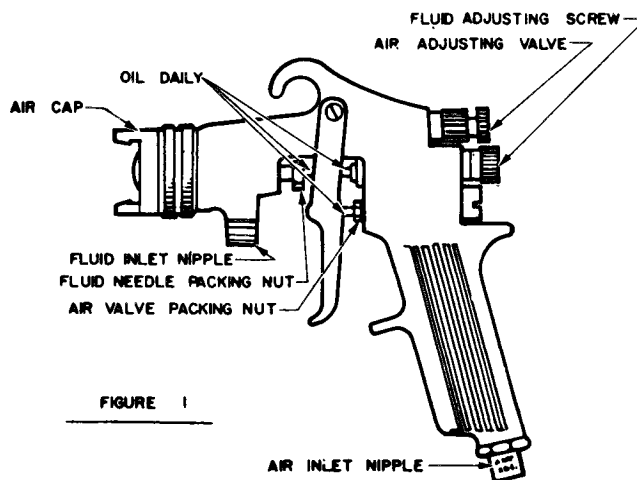

FIGURE 1
When used with a Siphon Feed Cup, attach the gun to the Fluid Inlet Nipple and connect the Air Hose to the Air Inlet Nipple (see Fig. 1). When used with a Pressure Feed Tank, Air Hose and Fluid Hose both are required to connect the Spray Gun to the Tank. The Fluid Hose is Black, the Air Hose is Red. Attach one end of the Fluid Hose to the Fluid Outlet on the Pressure Tank and the other end of the Fluid Hose to the Fluid Inlet Nipple on the Spray Gun. Attach one end of the Air Hose to the Air Outlet Valve on the Pressure Tank and connect the other end of the Air Hose to the Air Inlet Nipple of the Spray Gun (Fig. 1).
The width of the Spray is controlled by the Air Adjustment Valve (Fig. 1). Turn the Air Adjustment Valve clockwise to decrease the spray, counter clockwise to increase the spray. To produce a round spray pattern or spot, close the Air Adjustment Valve.
The amount of material flow is controlled by the fluid Adjustment Screw (Fig. 1). Turn Adjusting Screw to the right to decrease the amount of Fluid flow and to the left to increase it.
LUBRICATE DAILY all bearing surfaces and moving parts with a light oil. The points of lubrication, refer to SPRAY GUN ASSEMBLY SECTIONAL DRAWING and see also Figure 1, required are: (A) the front and rear bearing surfaces of FLUID NEEDLE Item 22 (B) bearing surface of AIR VALVE STEM Item 8.